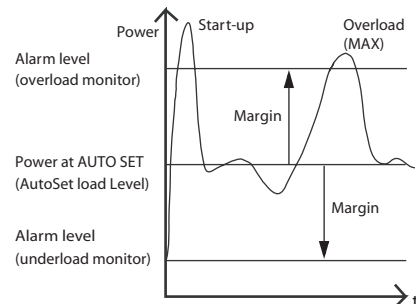

Fig 6. Alarm level and margin.
- Press PAR again and repeat steps B to F for all parameters except for AUTO SET. See table 2, 3 and fig. 6 for possible value setting for each of the eight parameters.
- K. Set/re-set e.g. start delay, response delay, margin etc. if necessary (see table 2, 3 and fig. 6).
Conveyor with overload protection, motor 11 kW (fig. 6).
Change the load on the machine to find out if appropriate load limit margin is set correctly. You can also reduce the margin by one or more steps to find out at what level the machine will trip. See fig. 6. Set/reset e.g. start delay, response delay, trip margin etc. if necessary (see table 2).